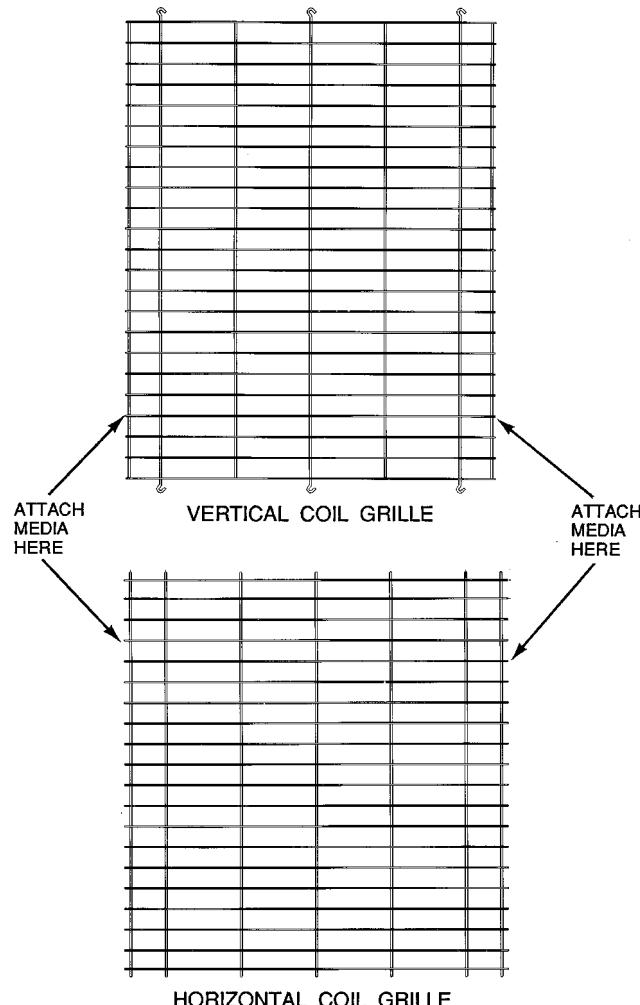

Fig. 1 — Filter Media Support Grilles
1. Attach each piece of filter media to the corresponding grille; place the media on the grille face and stretch it over the wire stubs at two edges of the grille. See Fig. 1. Set each media/grille assembly aside for mounting later.
1. Attach each piece of filter media to the corresponding grille; place the media on the grille face and stretch it over the wire stubs at two edges of the grille. See Fig. 1.